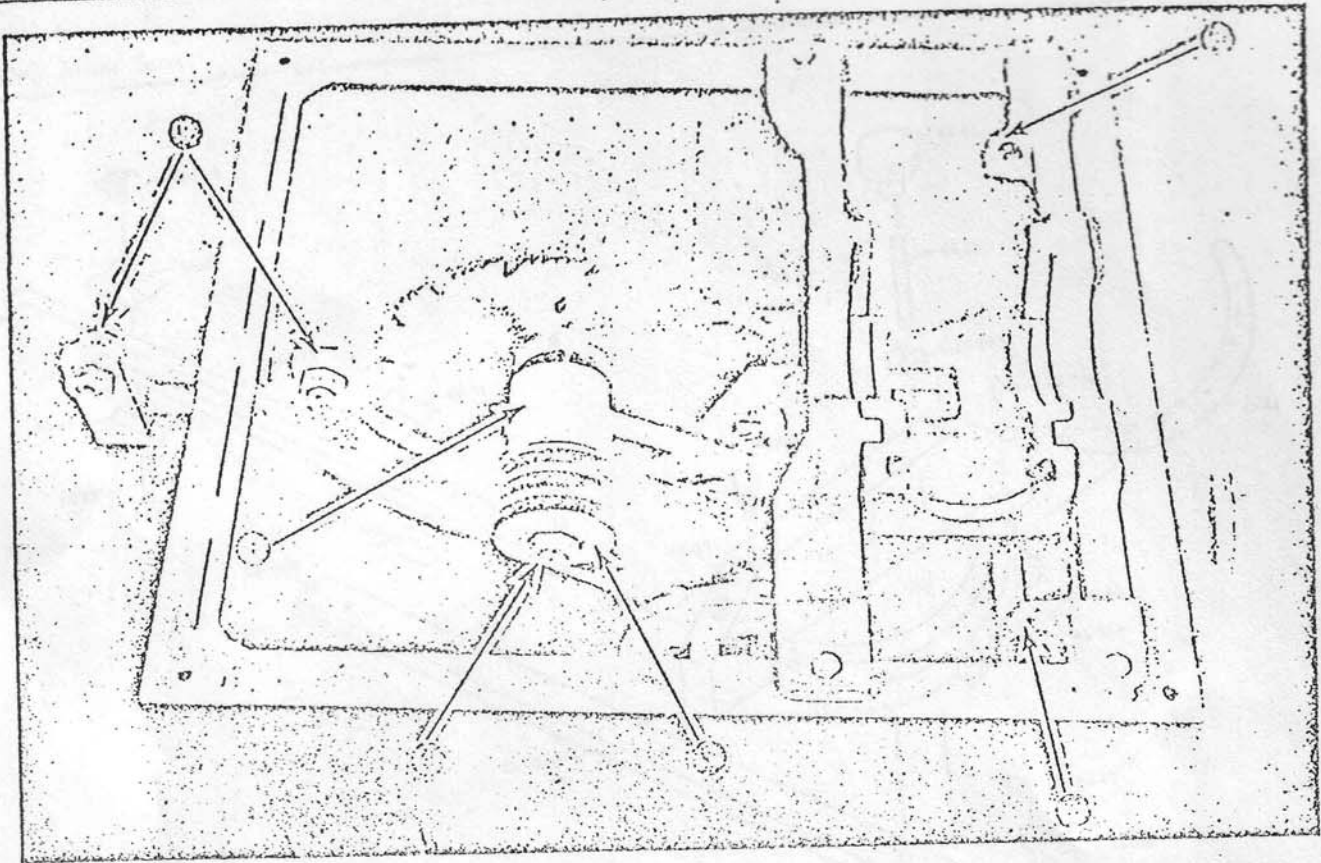

FIGURE 2
- V ARBOR:** Saw is equipped with a $\frac{5}{8}$ " arbor, operating in sealed ball bearings, requiring no lubrication. To remove saw arbor, remove nut (No. 4, Fig. 2) and V belt sheave (No. 5, fig. 2). Remove set screw (No. 6, fig. 2). Bump end of arbor with a wooden block and it will slide out.
CHANISM:** Saw blade is tilted by means of a worm gear, operated by handwheel on right side of saw base. Blade may be locked at any desired angle by tightening knurled handwheel in center of tilting handwheel. The tilting mechanism has stops at 45 and 90 degree positions, and may be adjusted to "0" setting with adjusting screws (No. 7 and 8, fig. 2).
PLITTER BAR:** If splitter bar does not line up with saw blade, realignment is simple through adjusting screws (No. 9, fig. 2).